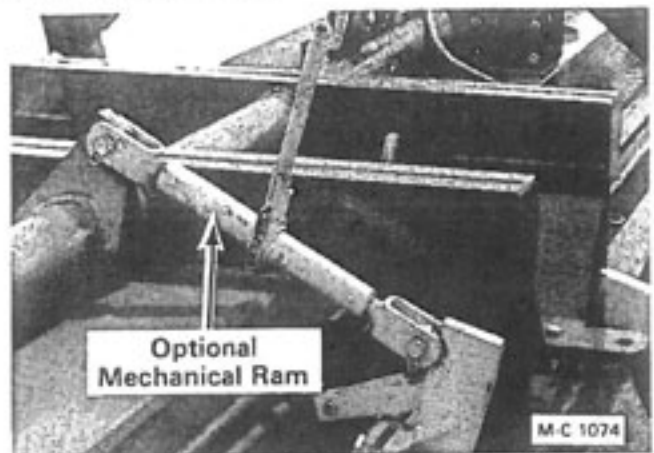

Figure 3 - 2408 w/Optional End Tow System
1. The cylinder rear mount with floating link is installed on the rear axle at the factory. Install the optional mechanical ram or customer supplied hydraulic ram between the cylinder front mount and the cylinder rear mount floating link, see Figure 3.